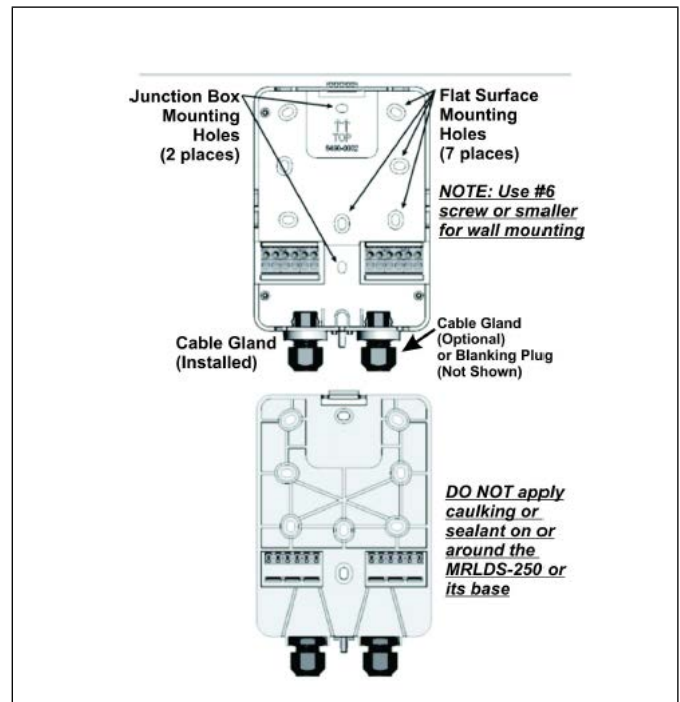

Figure A-2 - Front and Back of the MRLDS-250 Base
2. For Wall Mount, attach the MRLDS-250 base to the mounting surface using two #6 screws (provided) through two of the seven mounting holes (see **Figure A-2**). For Junction Box Mount, attach the MRLDS-250 base to the junction box through the two junction box holes.